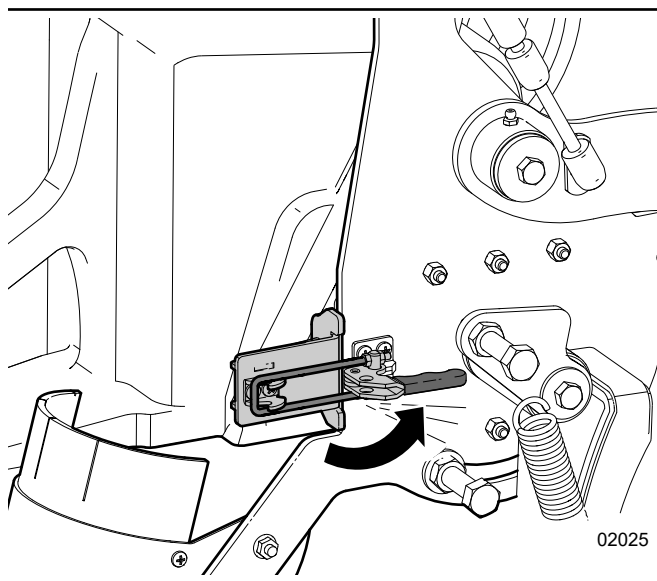

Figure 22—Holder draw latch
For more information, see *Figure 22 on page 33*.
5. Close the draw latch over the adapter catch to secure the chain saw to the holder. See *Figure 22*.